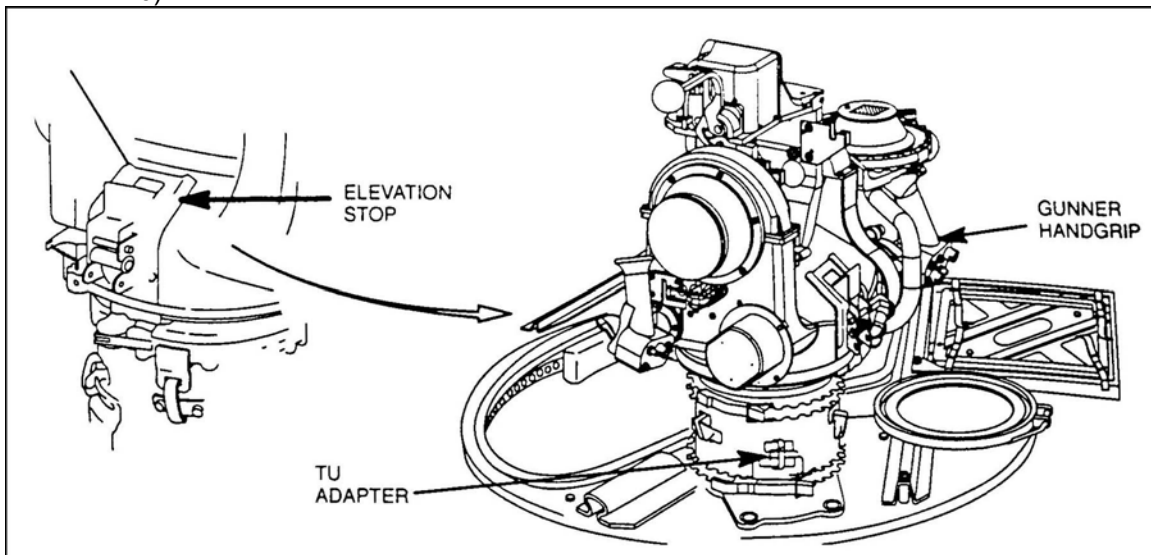

Figure 6. TU and TU adapter installation on pedestal mount.
- (1) Close lower coupling clamp handle and secure with locking spring to secure the TU adapter on the pedestal mount.
(2) Make sure both elevation and depression stops are in the up position and pinned (Figure 6).